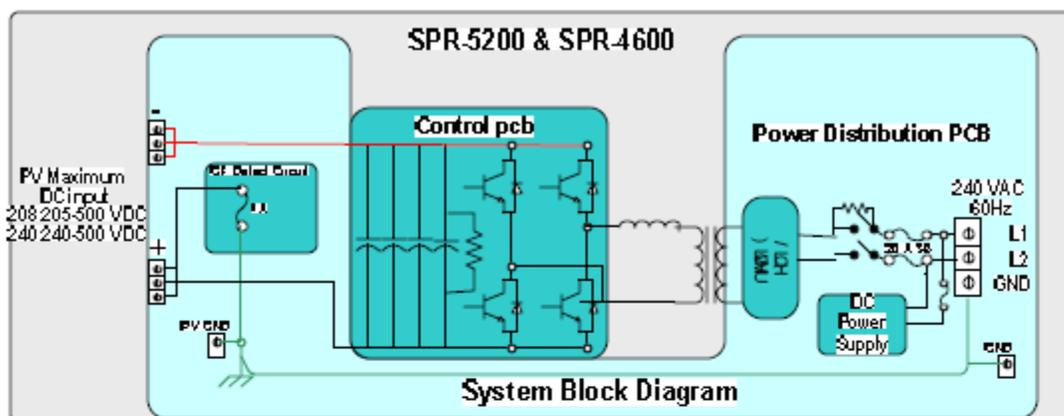

Figure5: System Block Diagram showing single point ground point
- ◆ Figure 5 includes schematic representations of the SPR-5200, SPR-4600 single point grounding. The front cover is grounded through the two cover mounting screws.